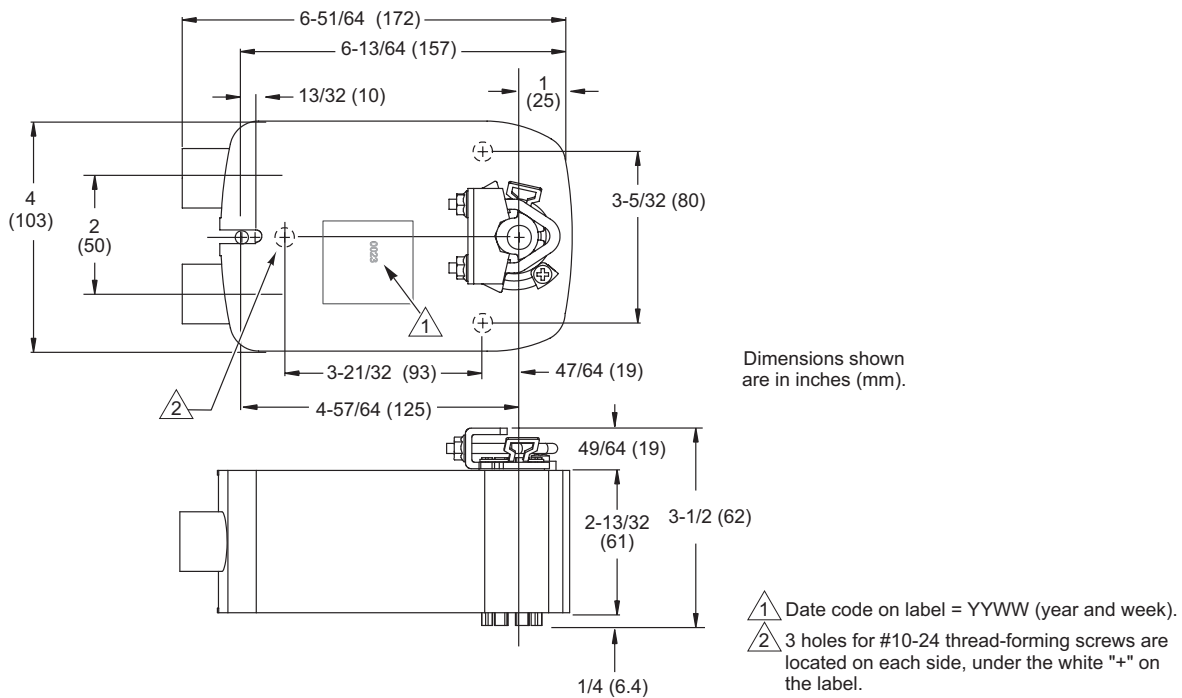

Figure-12 Mx40-704x Series Mounting Dimensions.
- Do not drill additional holes in the actuator body. Three pre-drilled holes are located on each side, under the label, to accept # 10-24 thread-forming screws for mounting accessories (Figure-12).
- Do not drill additional holes in the actuator body. Three pre-drilled holes are located on each side, under the label, to accept #10-24 thread-forming screws for mounting accessories (Figure-12).